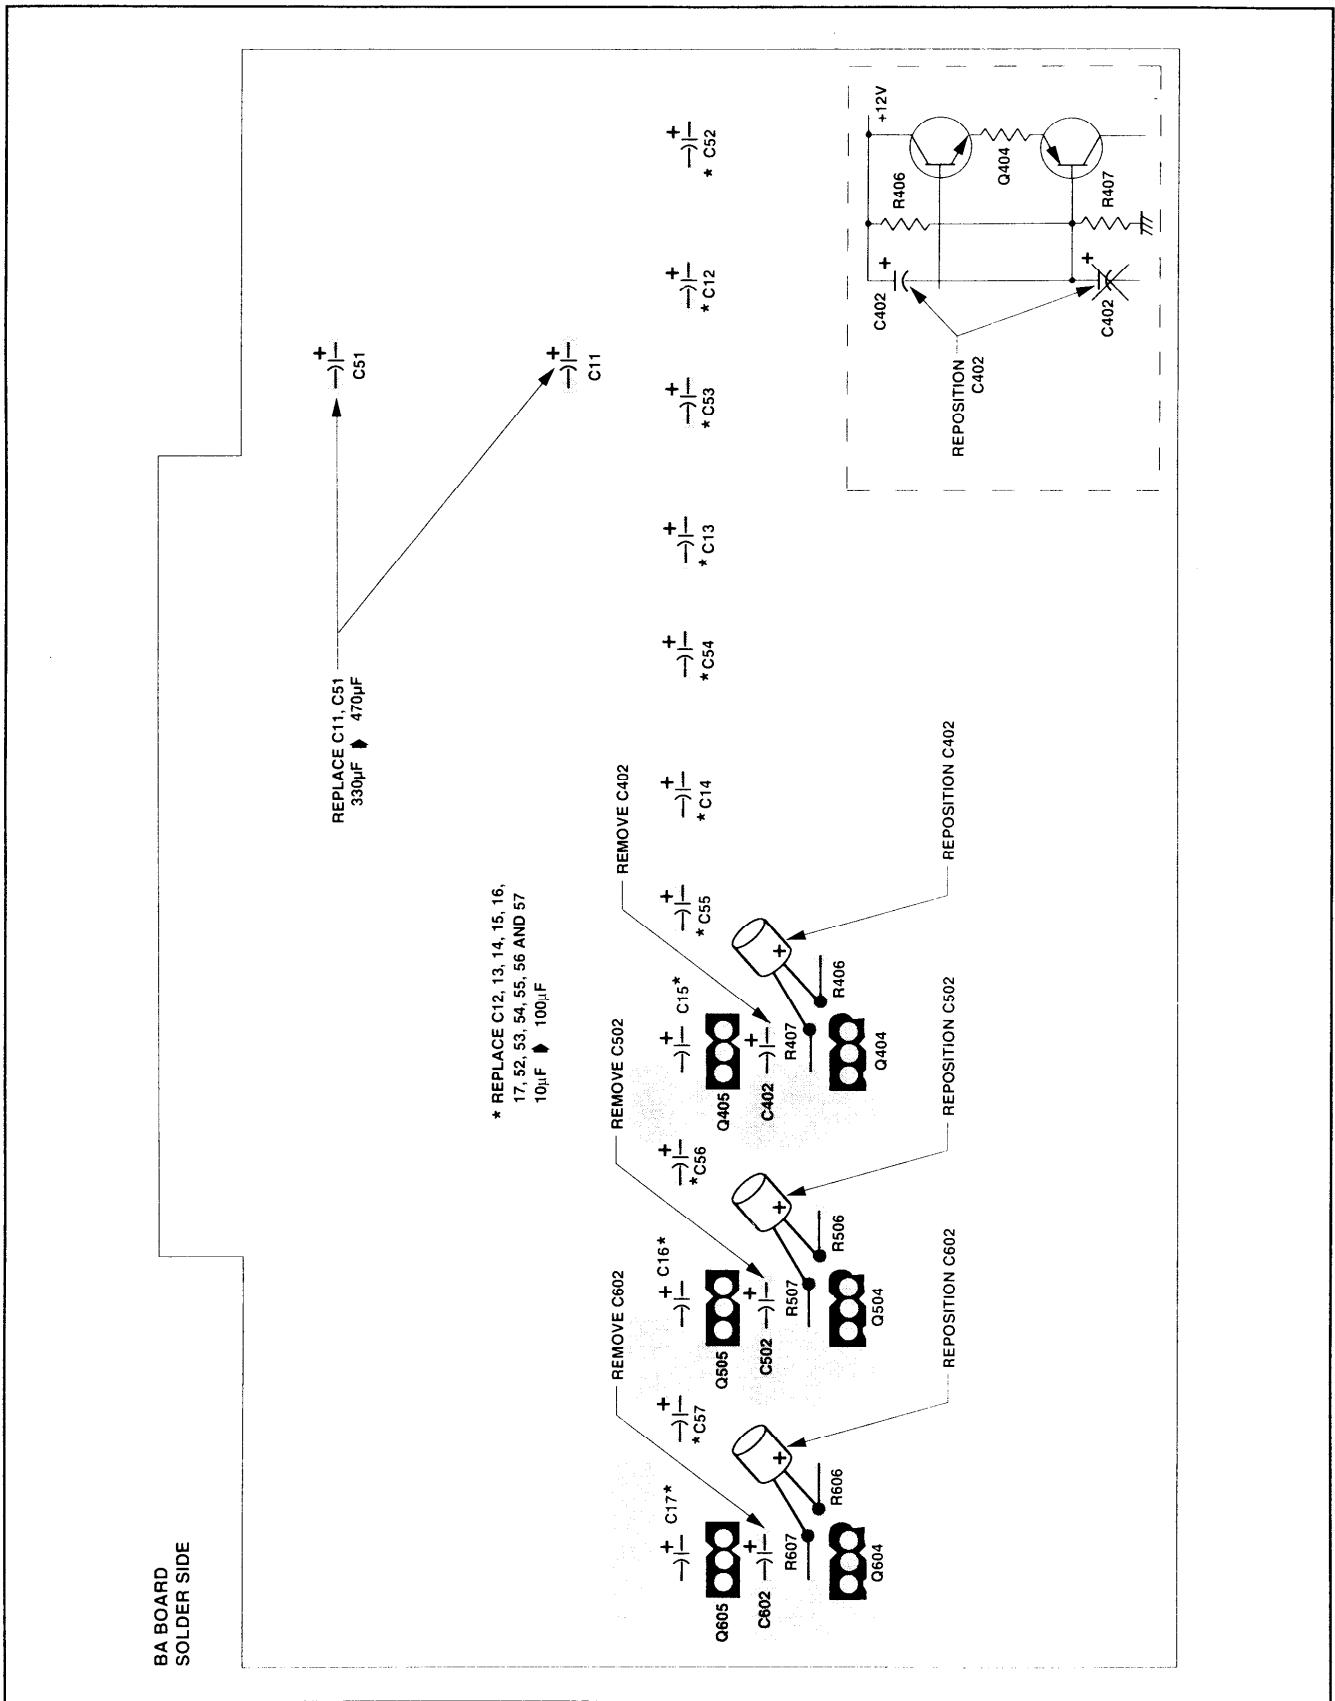

Figure 3
BA Board, Solder Side (See Figure 3.)
3. Reposition C402, C502, and C602 as shown in Figure 3.